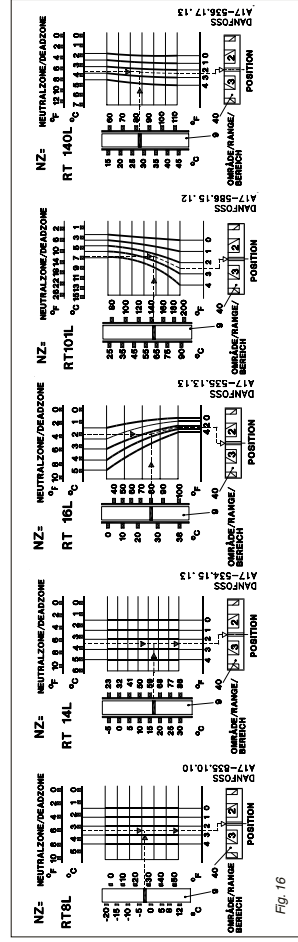

Fig. 16
Using the setting knob, set the thermostat on 24°C. The dotted lines in the diagram for the RT 16L, fig. 16, intersect each other on the curve for position 2.8 and the neutral zone setting disc (40) must be set to that position.